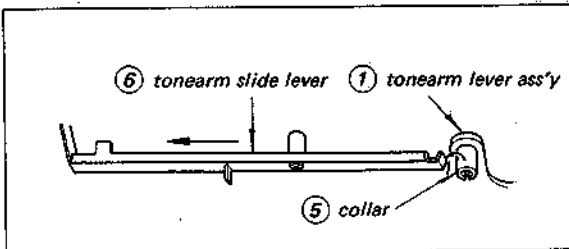

Fig. 1-4. Tonearm slide lever movement
When the stylus tip closes to the lead-out record groove, the collar (5) on the tonearm lever ass'y pushes against the tonearm slide lever (6) and it slides towards the turntable center as shown in Fig. 1-4.